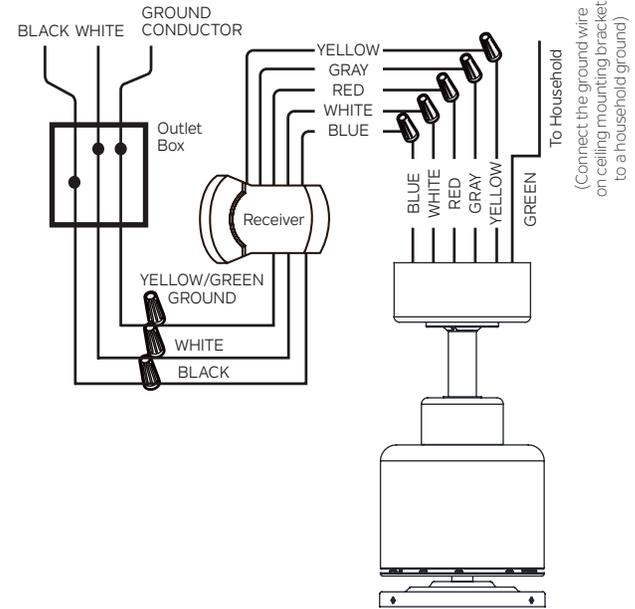

Fig. 13
Step 3. The ground wire (yellow/green) of the receiver connects to the ground conductor of the ceiling outlet box **(Fig.13)**.